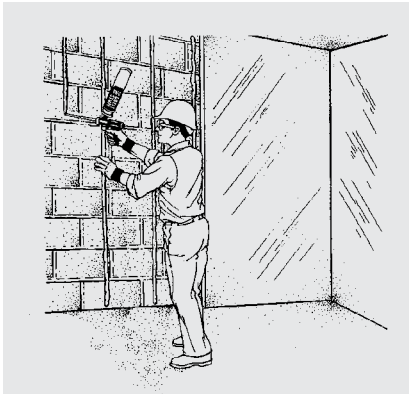

Figure 2
2. Apply heavy beads (min. bead size 3/8") of **Enerbond™ Professional Foam Adhesive** or appropriate construction-grade adhesive to the wall (Figure 2). **Note:** Follow adhesive manufacturer recommendations for application pressure and cure times for proper adhesion to masonry walls.